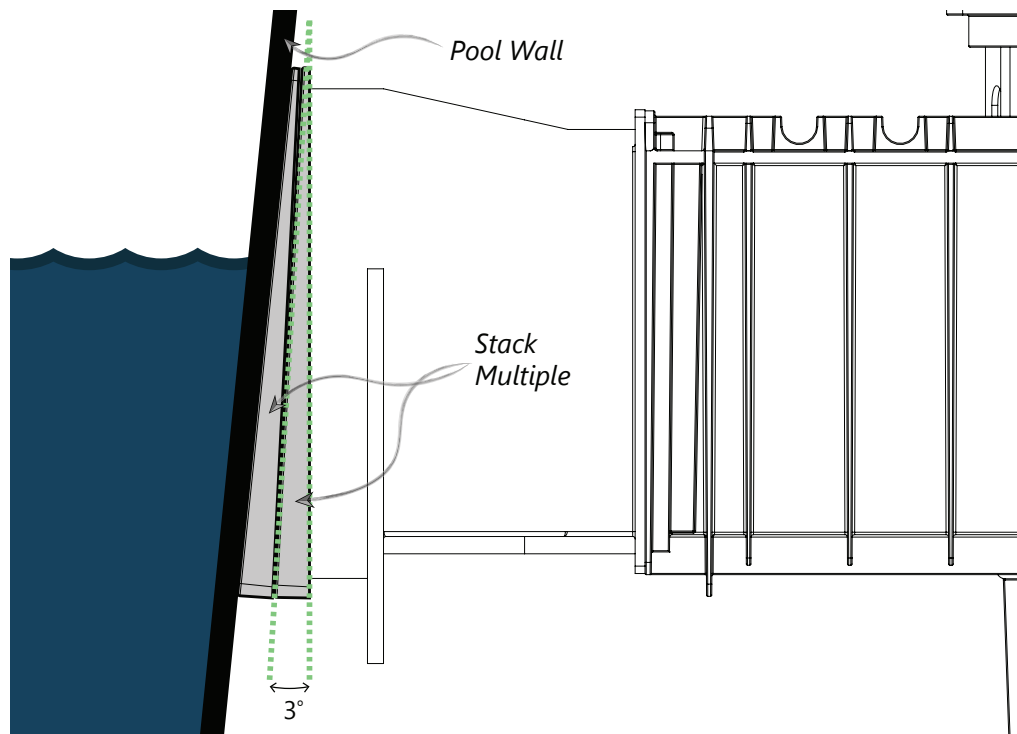

FIGURE 1 - SHIM ALIGNMENT
4. Multiple shims can be stacked to achieve the correct alignment. (FIGURE 1)